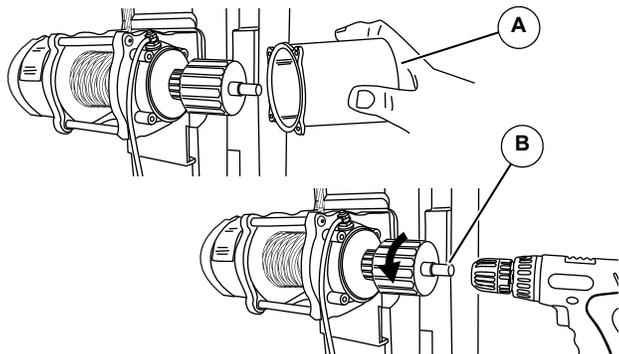

Figure 3-10. Manually Lowering the Mast
1. See Figure 3-10. Remove the motor cover (A).